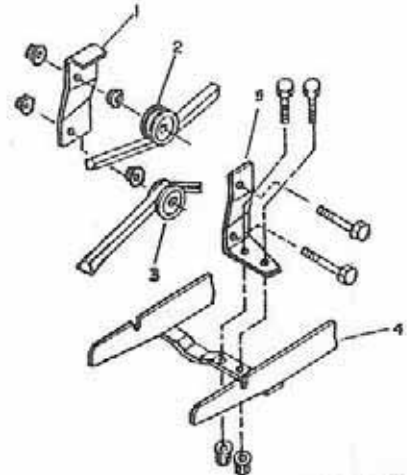

FIGURE 8
- a) Install the idler support (fig. 8, item 5) on snowblower male hitch (item 4) using two 5/16 X 1" bolts and nuts. Tighten securely.
- b) Remove the idler guard (fig. 8, item 1). Place the bottom section of the V-belt on top of the bottom idlers (item 3) and the top section of the V-belt under the top idler (item 2). Reinstall the guards, using 3/8" nuts, tighten securely.